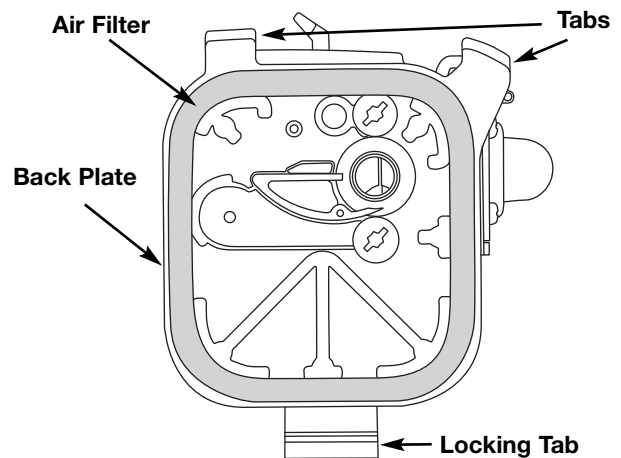

Fig. 25
2. Remove the air filter (Fig. 25).
6. Replace the filter (Fig. 25).
7. Reinstall the air filter cover. Position the slots on the top of the air filter cover onto the tabs at the top of the back plate (Figs. 25 & 29).